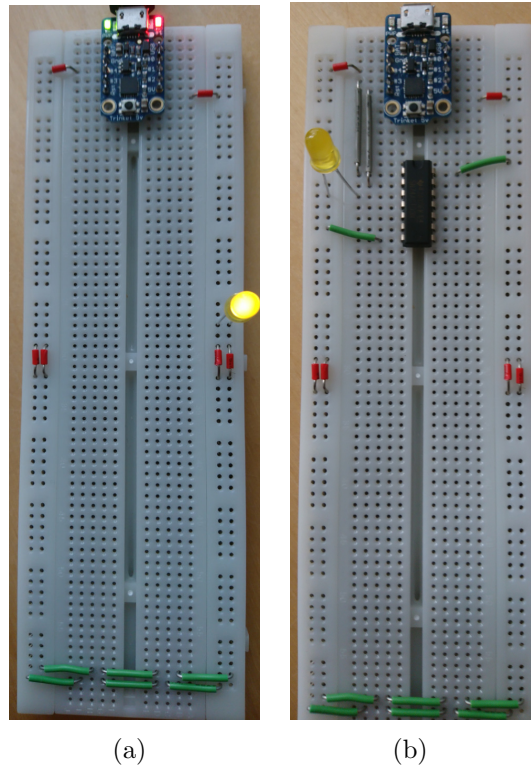

Figure 1: (a) Basic setup of a breadboard for the lab. (b) Setup of a NAND IC with input from the adafruit Trinket and output through an LED.
- As a first step, you need to set up your breadboard and let the arduino power other logic circuits. Follow the setup on Figure 1(a).
- You should now have a setup similar to the one in Fig. 1(b).